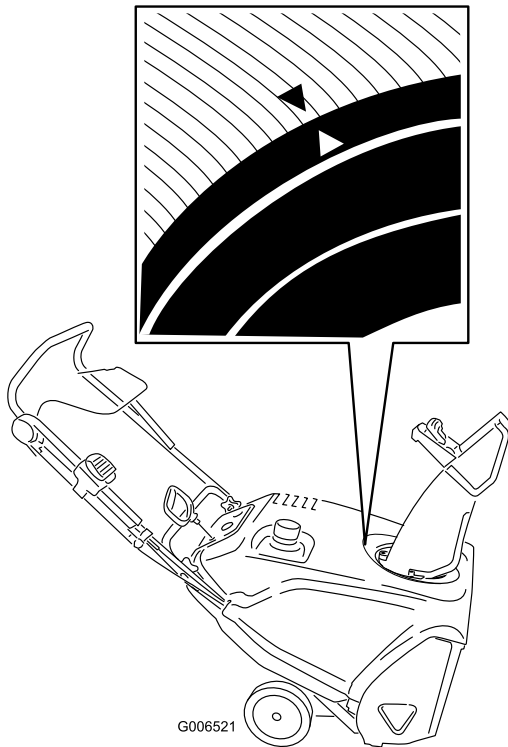

Figure 41
3. Rotate the discharge chute so that it faces straight ahead and the arrow on the back of the discharge chute aligns with the arrow on the shroud (Figure 41).